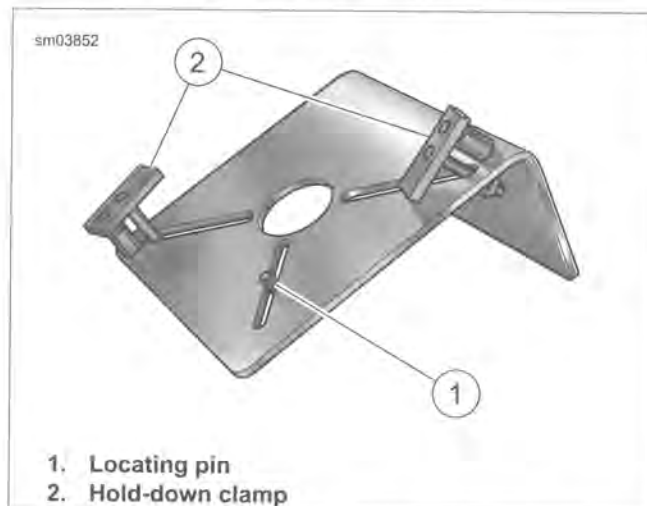

Figure 3-128. Flywheel Holding Fixture
- See Figure 3-128. Install brass jaws or shop towels around teeth of vise to prevent damage to tool. Obtain FLYWHEEL SUPPORT FIXTURE (Part No. HD-44358). Clamp tool in vise with the round hole topside.